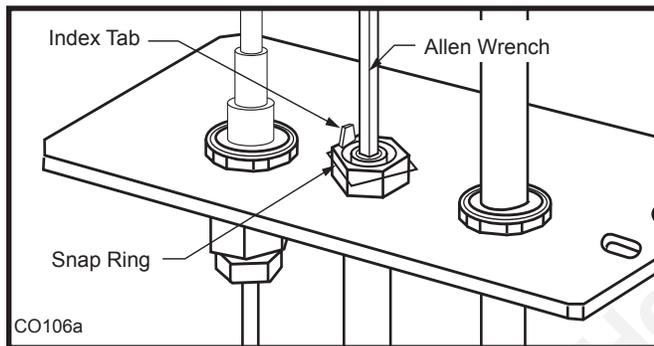

Fig. 32 Remove pilot orifice.
- Remove pilot orifice with allen wrench. (Fig. 32)